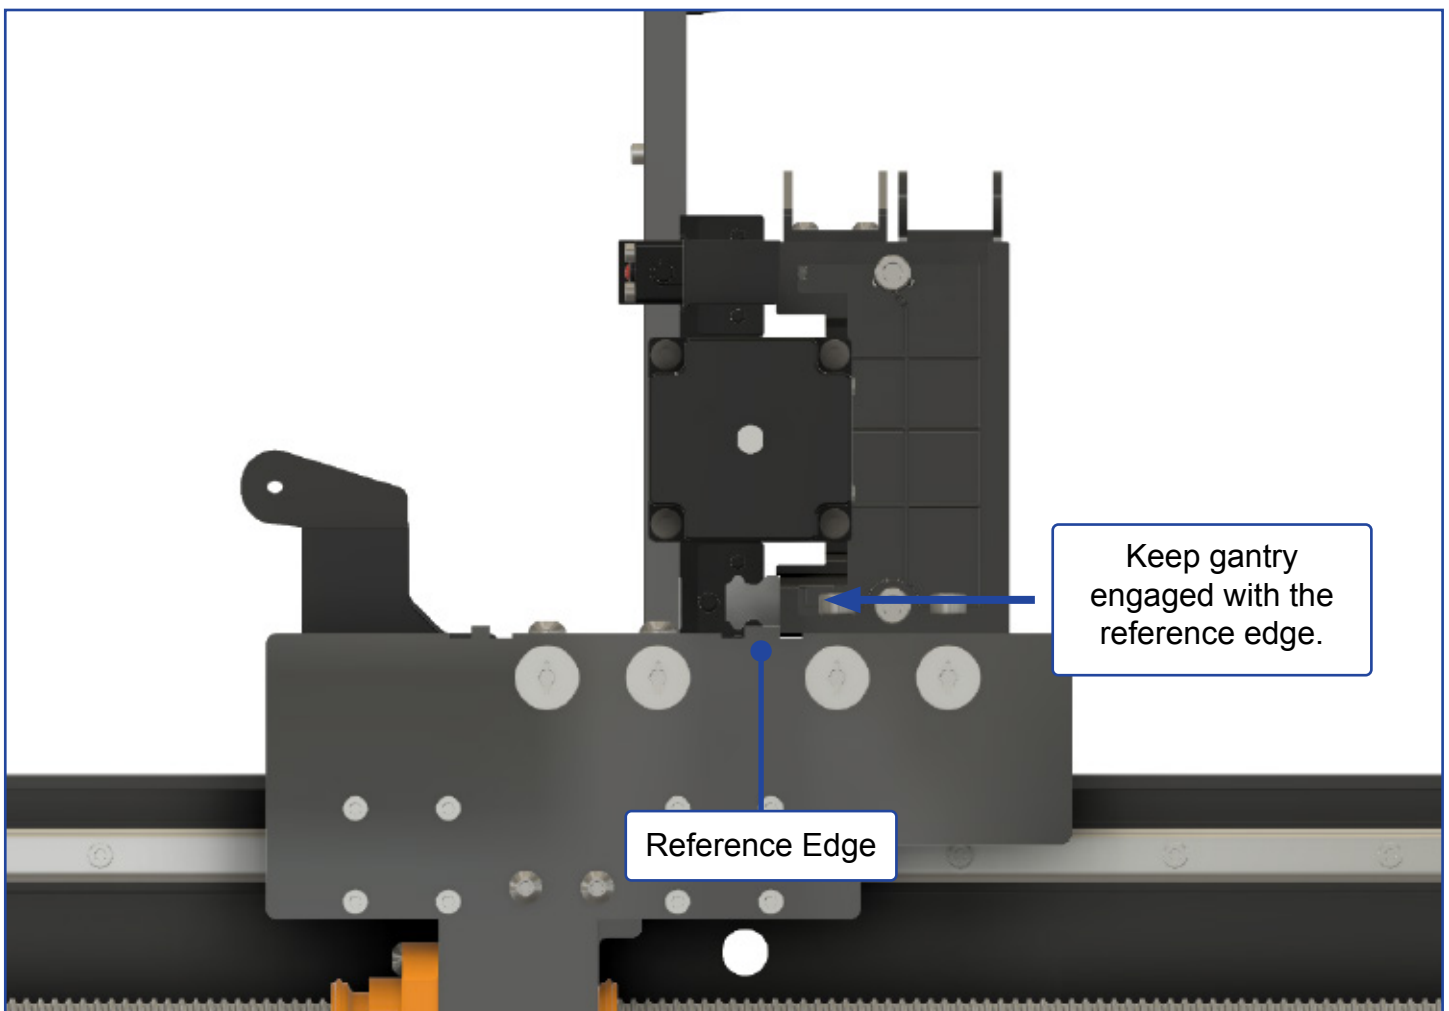

Figure 1-6
3. From the right side of the machine, push the gantry toward the front of the machine until it engages with the reference edge on the top of the Y-Right carriage plate. See **Fig. 1-6**.